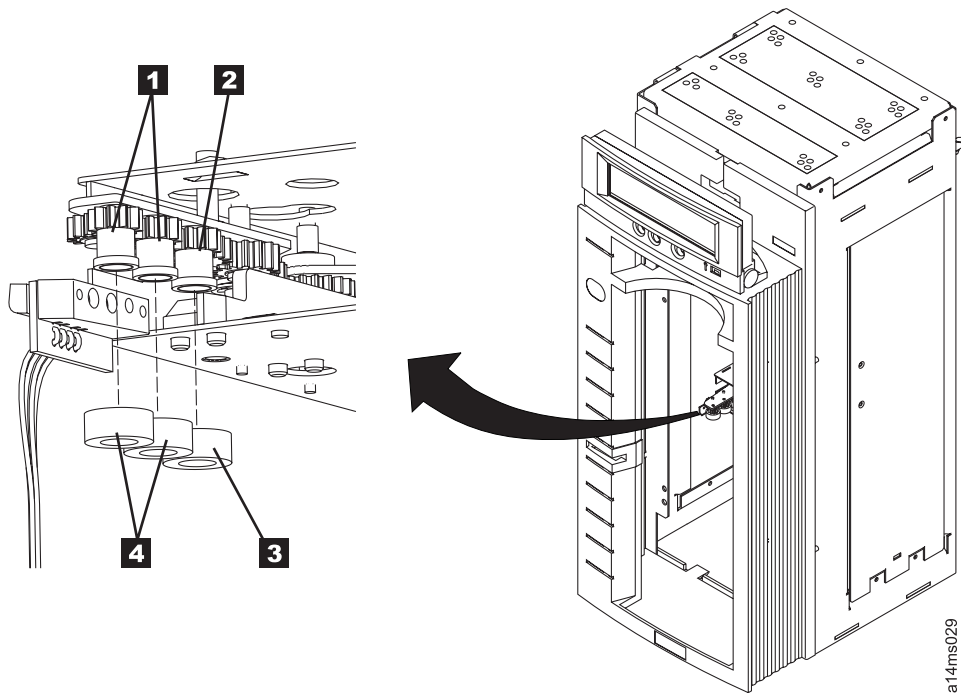

Figure 10-37. Front Transport Pinch Rollers
- b. See Figure 10-37. Use a spring hook or small screwdriver to remove the first and second rollers **4** from the front pinch roller arm.